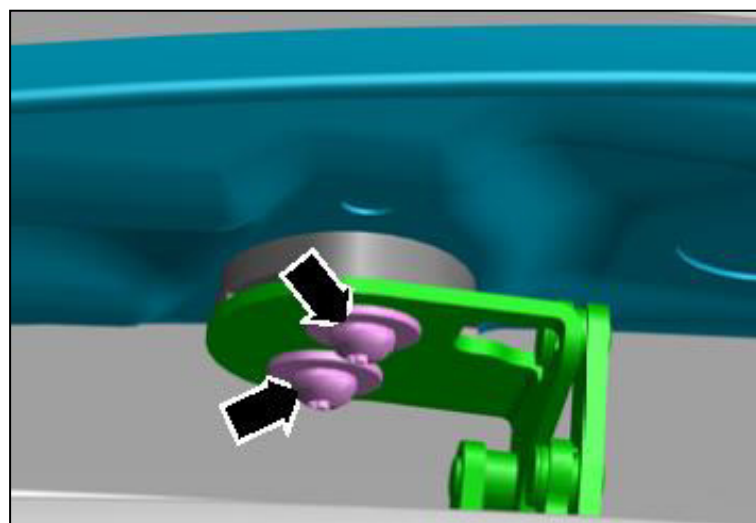

Fig. 1: Disassembly of the serial spoiler
**Attention:** Before installing, please read the assembly instructions carefully and completely! It includes important details and information which must be followed before and during the installation and which help to avoid misunderstandings. ABT Sportsline recommends a specific dealer's workshop for all assembly work. In case of doubt, please feel free to contact our technical service at +49 (0)831 57140-905.
5. Check if the ABT rear wing accurately fits to the car. If necessary, adjust gently with appropriate tools. In case of doubt, please feel free to contact our technical service at +49 (0)831 / 57140-905.
8. Unscrew the screws - arrows - and remove the serial spoiler (fig. 1).